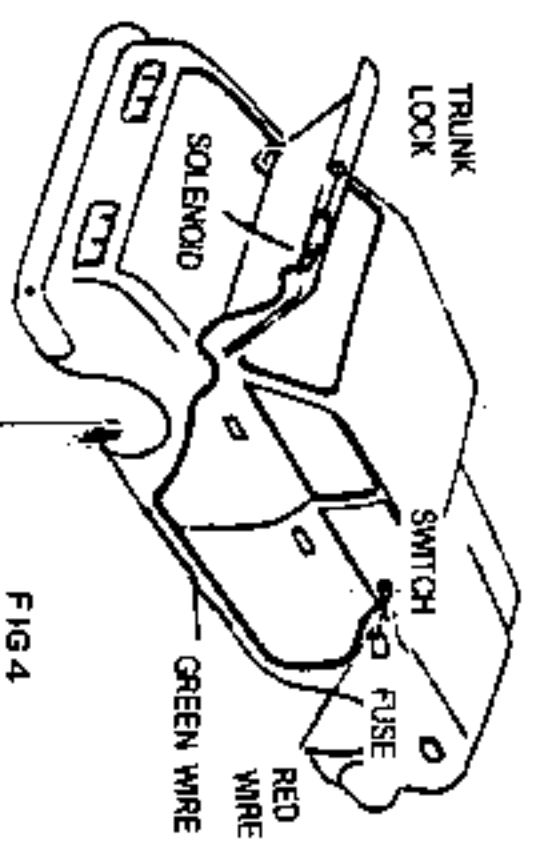

FIG 4
4. Mount pushbutton switch in a desired location (under dashboard or in car compartment). Attach red and green wires to terminals on switch. Route red wire to fuse panel (do not connect at this time). Route green wire along vehicle and connect it to one terminal of solenoid (see fig. 4)